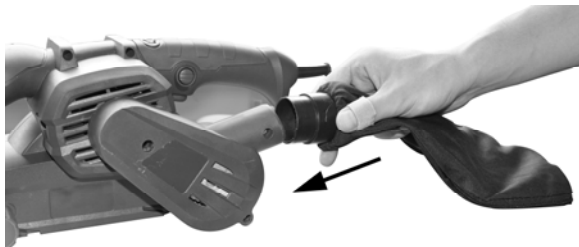

Fig.3
2. Push forward until it locks in place.(Fig.3)